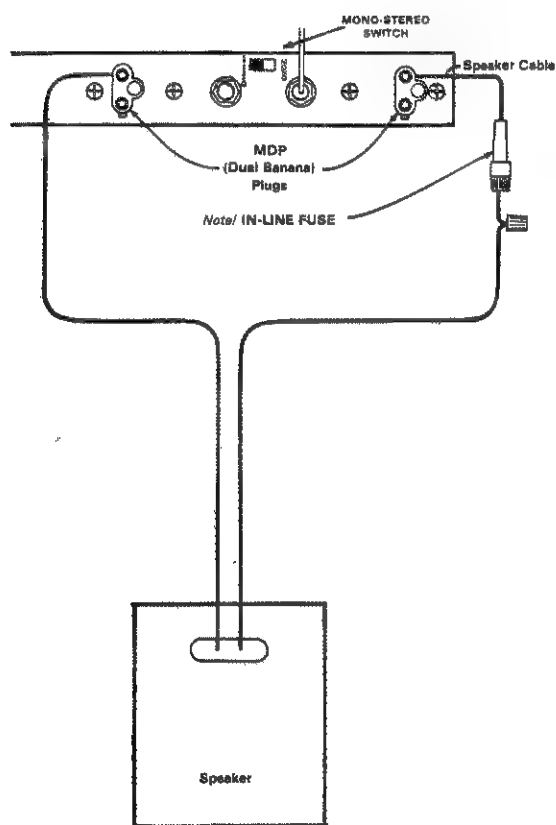

FIG. 2-7
A mono-stereo switch on the rear panel adjacent to the input jacks, allows the D-60 to be operated normally (stereo) or in mono, with no internal modification. (See figure 2-7.) When in the mono position, the input circuitry of the D-60 is changed so that the two amplifiers are "added" for mono output. (See mono specifications, page 3).
2. Connect output lines as per the following drawing, Figure 2-7. The output from the D-60 in Mono is **BALANCED** and is isolated from the chassis, and from the input grounds to the D-60.